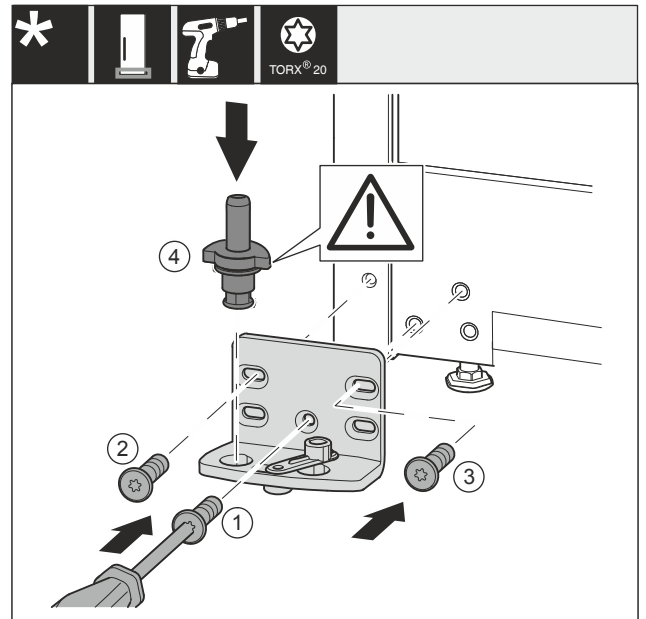

Fig. 37 \*
- ▶ Place the swap bearing block on the other side and use a screwdriver to screw it on. Start with the Fig. 37 (1) bottom middle.\*
- ▶ Tighten screw Fig. 37 (2) and Fig. 37 (3).\*
- ▶ Insert the bearing bolt Fig. 37 (4) completely. Ensure that the latching cam is pointing towards the rear.\*